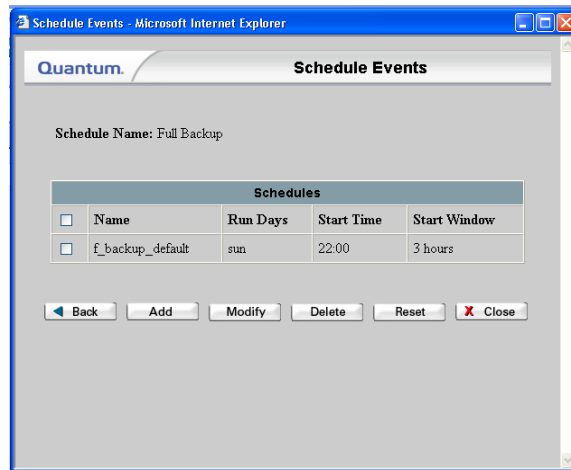

Figure 14.6-5. Selected Feature Schedules Screen
- The Feature Schedules screen displays the selected Feature and its current schedule (Figure 14.6-5).